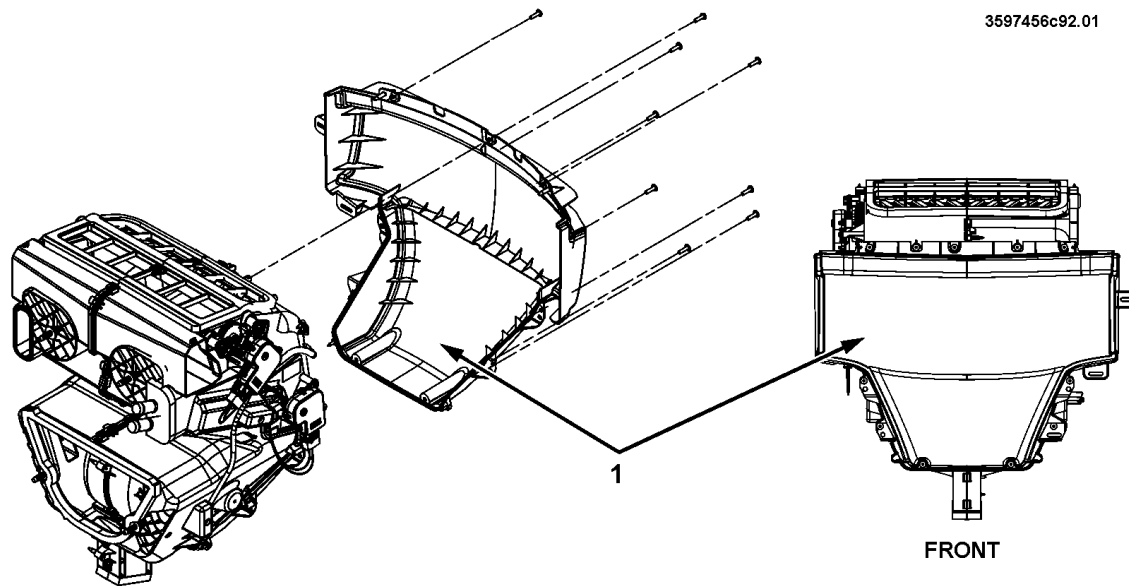

Figure 29 Heater Trim Cover
NOTE – Refer to Figure 29 while performing the following Remove and Install procedures.
2. Remove trim panels, as necessary, to gain access to mounting screws for heater trim cover (1, Figure 29).
1. Secure heater trim cover (1, Figure 29) to heater housing with nine screws.